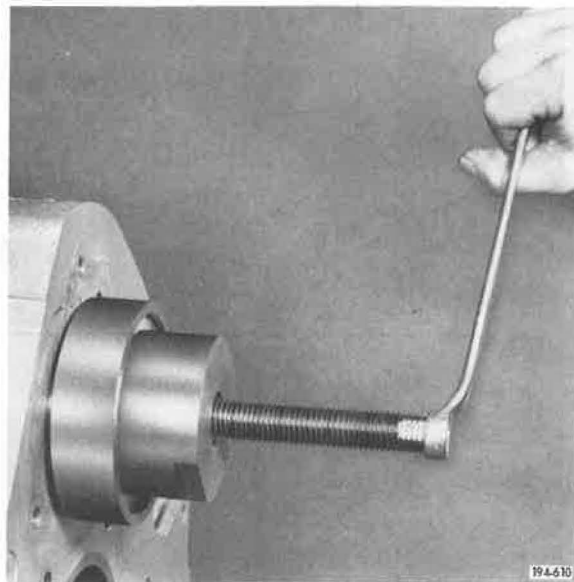

Figure 77. Tightening Puller
18. Tighten threaded shaft of puller until bearing is removed. See Figures 77 and 78.